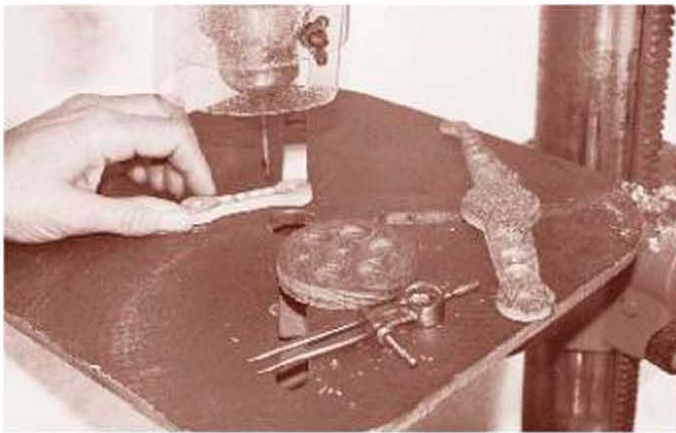

FIGURE 21-8
- 2** Use a ruler and dividers to establish the position of the various holes, mark the centers and then drill the holes through (Figure 21-8). You also need to drill some blind holes—holes that don't go all the way through the wood—so be sure to set the drill stop to the required depth.